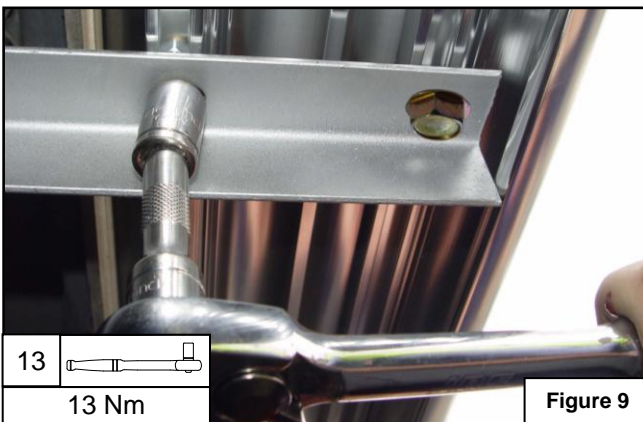

Figure 9
**Step 9.** Lift the Side Step back onto the brackets and position in the centre of the wheel arches. Secure the side step to the brackets using two M8 x 11mm flange bolts per bracket (item 11) picking up nuts in the channels of the Side Step. Finger tighten only. (See fig.9)